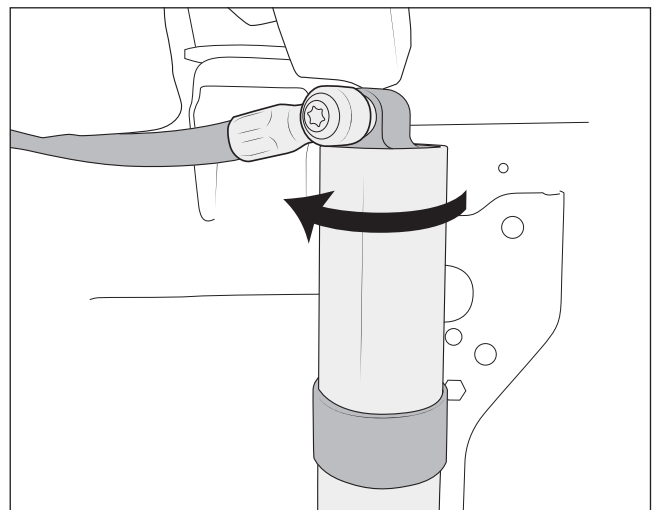
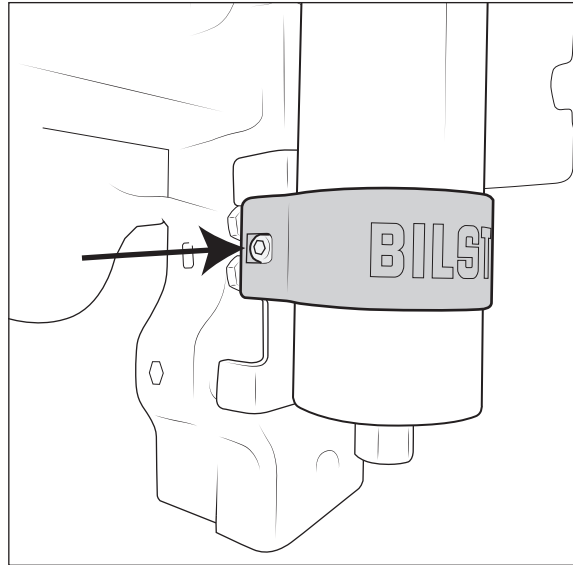

Figure 9
Figure 10
10. Install the reservoir clamp bolt from the rear so that the nut is at the front. Do not tighten yet. Position the reservoir so that 1.5-2" of the body sticks below the bottom of the clamp. Rotate it so that the hose and fitting point inboard about 45° toward the body mount, making sure the hose and fitting don't contact the body mount or any other sharp edges (fig. 9). Tighten the clamping bolt until snug, excessive force is not needed to hold the reservoir in place (fig. 10).